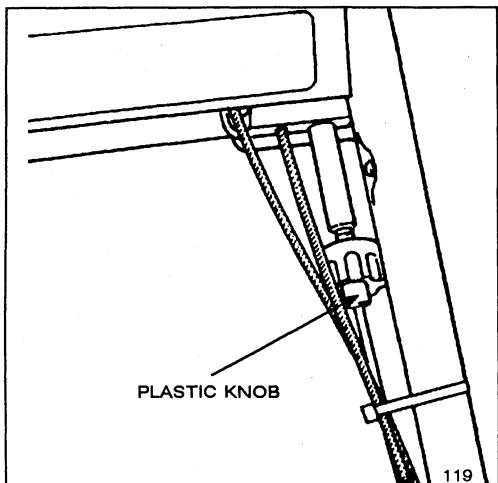

Figure 17
3. To adjust wheel drive cable, rotate knob under left front of control panel (Fig. 17). Rotate knob in positive (+) direction to increase distance between control bar and handle. Turn knob in negative (-) direction to decrease distance between control bar and handle.